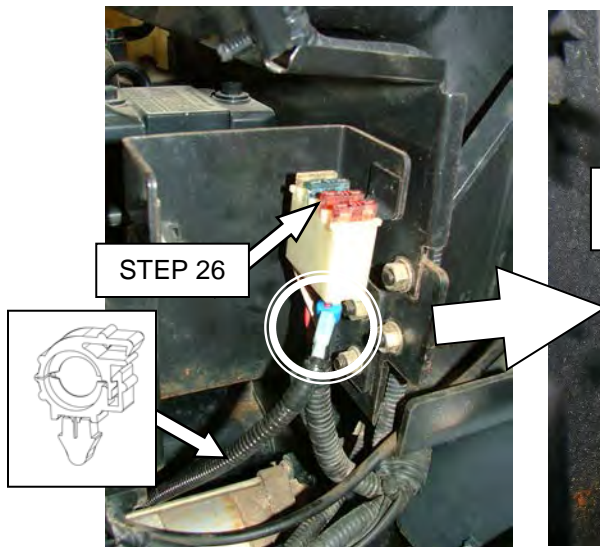

FIGURE 12
25. Route the blue wire labeled, "Ignition On" from the cab's main wire harness to the tractor's electrical panel, located on left side of cowl. Extend this blue wire by connecting a blue 36" wire extension (26), supplied with mount kit.
26. Use a 3-way wire splice or T-tap connector to connect the blue wire to "Ignition ON" power source, the wire from the second 10 amp fuse from end location **(Figures 12 & 13)**.